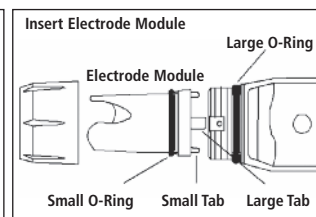

Figure 7:
- 3 Align the four tabs on the new module so that they match the four slots on the instrument (see figure 7).